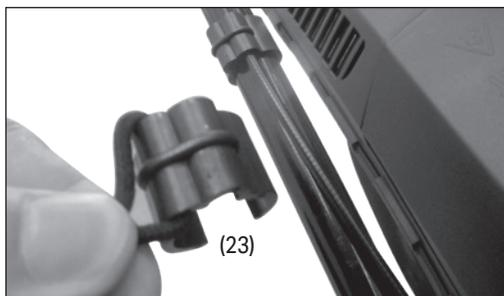

Fig.4
- Align the panel (4) with the four holes in the top handle frame. Then attach securely using the four cross slot screws supplied. Pass the control cables through the openings on the underside of the panel, taking care not to damage the cables.
6.3 Fitting the Cable Clips (Fig.4)